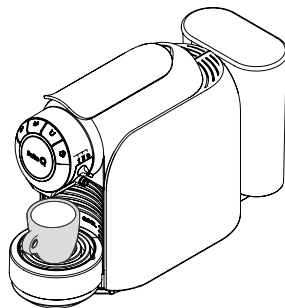

Fig. 8: Place espresso coffee cup.
- Put an espresso coffee cup on the cup tray under the extraction nozzle (see **Fig. 8**).